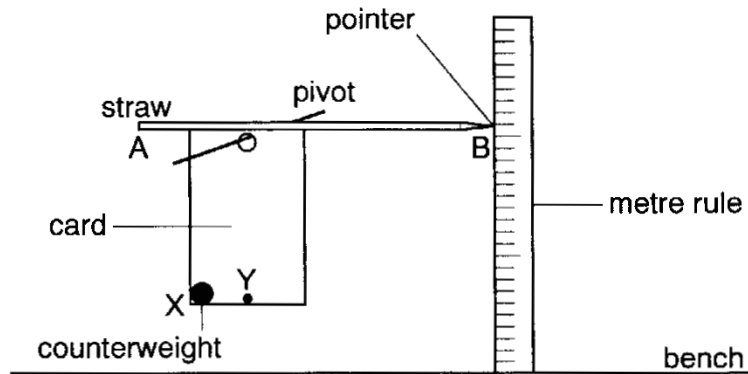
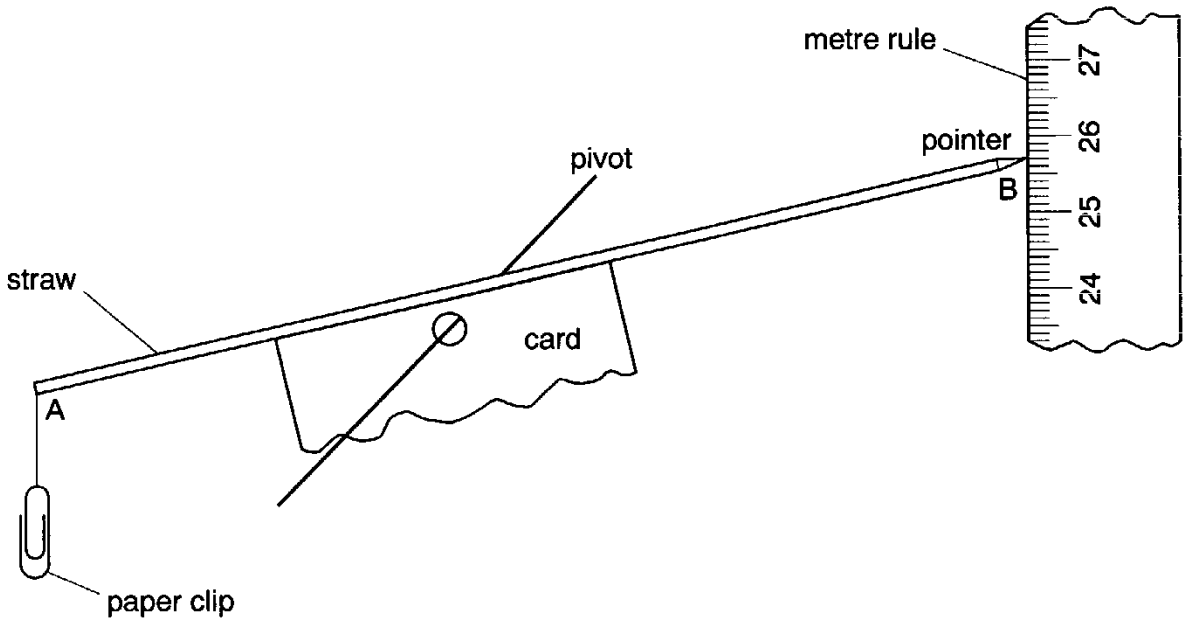

Fig. 5
Fig. 6
The lever balance shown in Fig. 5 was constructed from a straw AB fitted with a pointer at one end and a piece of card. The balance was supported on a pivot and the straw set horizontal by adjusting the position of a small counterweight. The height of the pointer was measured by using a metre rule placed beside the apparatus.
- (a) Describe how you would check that the metre rule was perpendicular to the bench. You may draw on Fig. 5 .
(c) With the straw horizontal, as shown in Fig. 5, a small paper clip was attached to the end A of the straw. The balance came to rest as shown in Fig. 6. Write down the reading shown for the height of the pointer B.